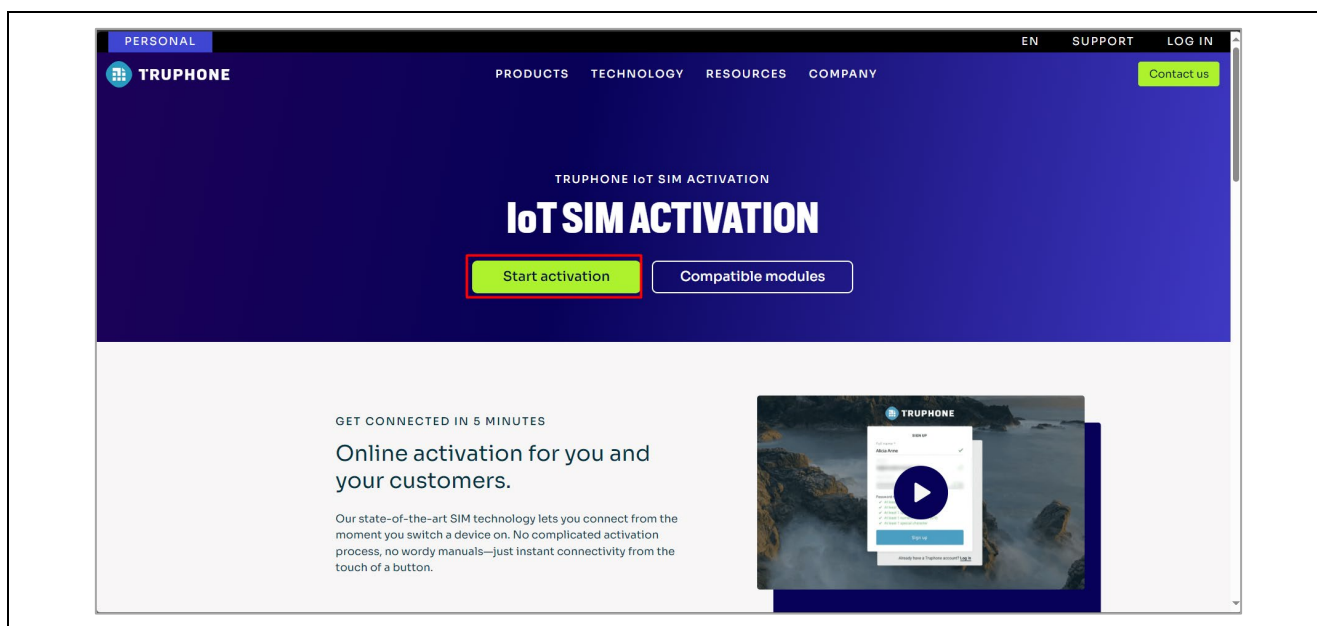

Figure 9. Activating the SIM card
1. On the opened webpage (snapshot shown in the Figure 9. Activating the SIM card), click the **Start activation** button under **IoT SIM Activation**.